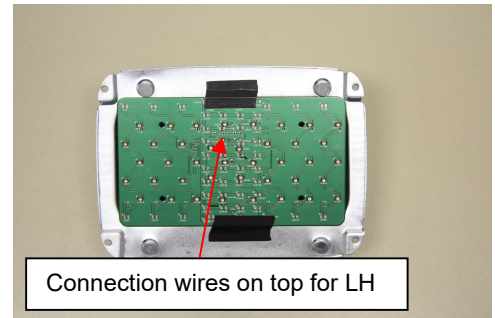
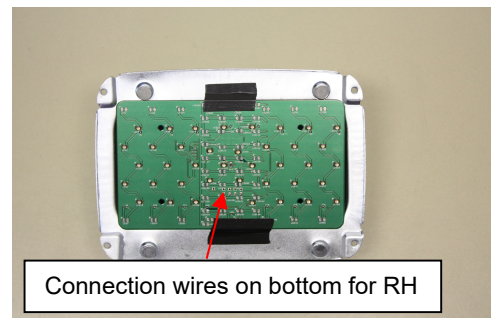

Figure 2
Figure 3
- 3.1. ORIENTATION OF PANELS – The panels must be orientated properly in order for the sequential patterns to be correct. Left Hand (LH) panel is mounted with the wire connections towards the top of the housing. (See Figure 2) The Right Hand (RH) panel is mounted with the wire connections towards the bottom of the housing. (See Figure 3)
- 3.4. Place the LED Taillight Panel into the taillight housing under lens gasket observing proper orientation and centering the panel on the housing face. Secure the panel from slipping from position by taping down with electrical tape on the top and bottom. (See Figure 2 & 3)